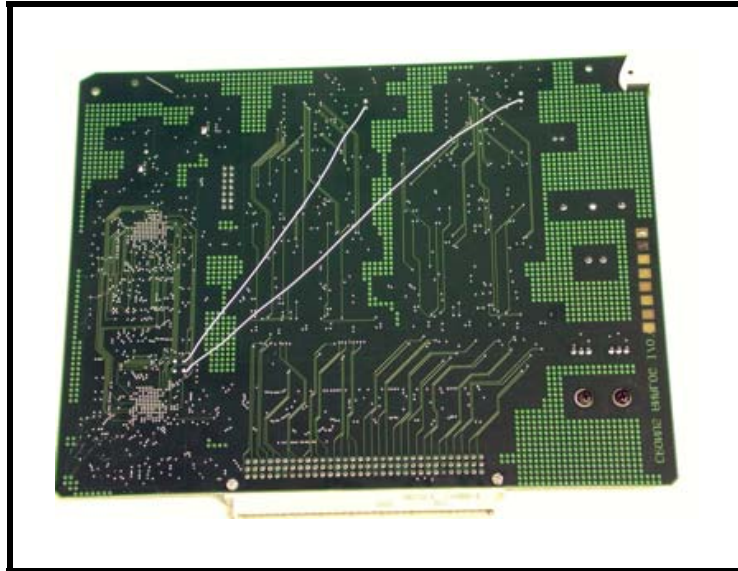

FIGURE 1. Wire Placement on the Cronus Front Card
1. On the RVON-I/O card remove **8 resistors (R24 through R431)** and replace with **6.19 K resistors (part number 102515-276)**. See Figure 1 for resistor placement.